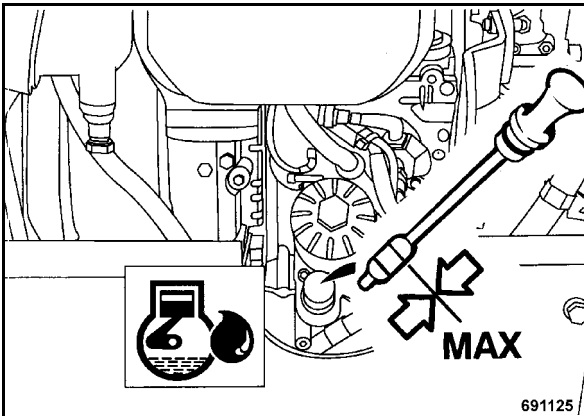

Fig. 65
- After a short test run check the oil level on the dipstick (Fig. 65). The oil level should reach the top level mark, top up oil if necessary.